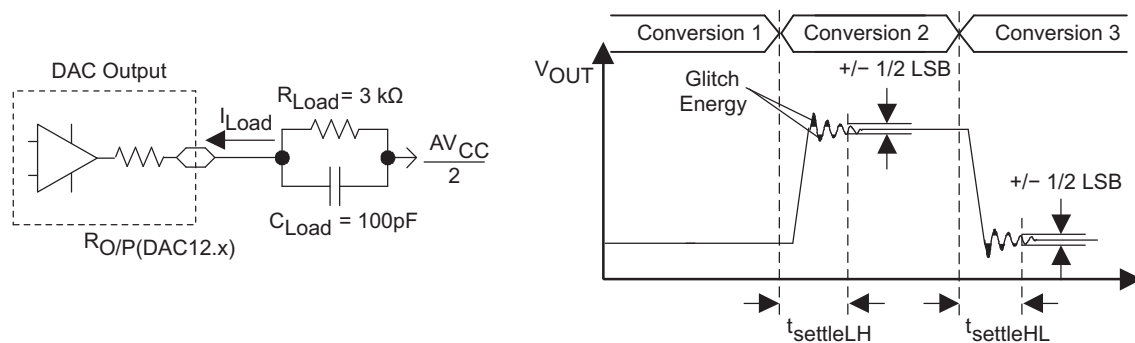
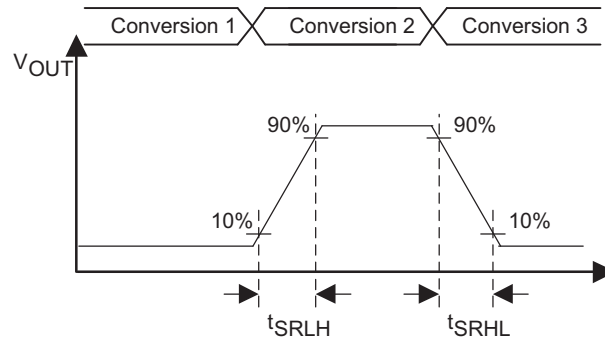

Figure 45. Settling Time and Glitch Energy Testing
Figure 46. Slew Rate Testing
$V_{REF} = V_{CC}$ , DAC12IR = 1 (see Figure 45 and Figure 46), over recommended ranges of supply voltage and operating free-air temperature (unless otherwise noted)
(1)  $R_{Load}$  and  $C_{Load}$  are connected to  $AV_{SS}$  (not  $AV_{CC}/2$ ) in Figure 45.
(2) Slew rate applies to output voltage steps  $\geq 200$  mV.